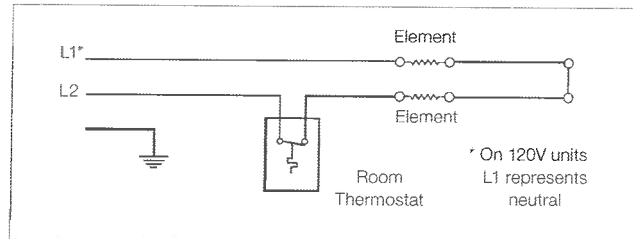
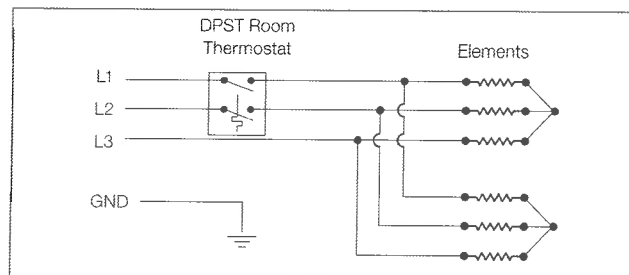

Figure 6 – Wiring Diagram for remote mount and built-in room thermostats (1Ø units)
Figure 7 – Wiring Diagram for remote mount and built-in room thermostats (3Ø units)
- Check that all connections are secured and comply with the wiring diagram (see Figure 6 and Figure 7, page 7 and applicable code requirements,